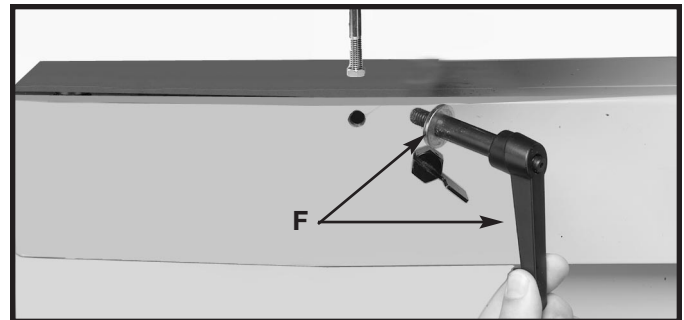

Fig. 5A
2. Remove table tilting lock knob and washer (F) Fig. 5A, from the side of the saw.